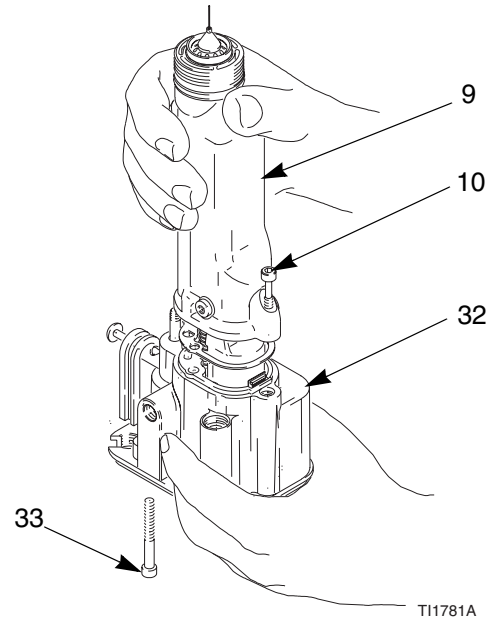

**Fig. 29. Actuator Arm Adjustment**
2. Position the parts so there is a 0.125 in. (3 mm) gap between the actuator arm (29) and the fluid packing rod nut (E), which allows the atomizing air to actuate before the fluid. See FIG. 29..
3. Tighten the adjustment nut (30) against the actuator arm (29). Check that the 0.125 in. (3 mm) gap has been maintained. In addition, there should be 3-4 mm of electrode needle travel when the gun is triggered. Adjust the jam nut position to obtain these dimensions.
5. Install the gun shroud (2) and air cap (3), page 45.